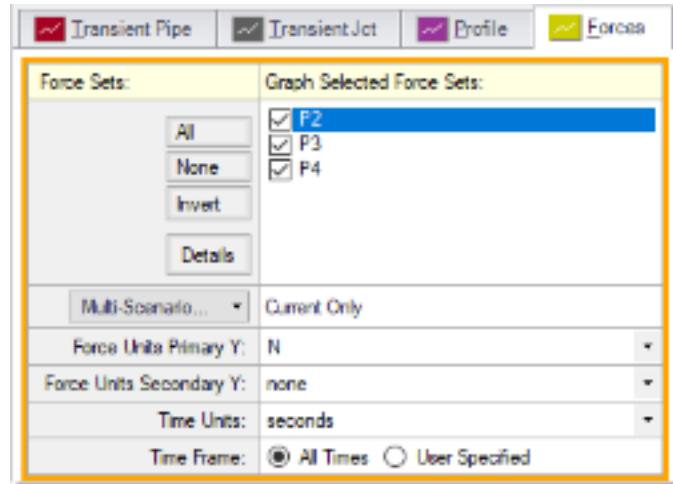

Figure 5.11 Graph parameters for force sets
- 1. Select the Forces tab on the Graph Control tab on the Quick Access Panel, as shown in Figure 5.11.